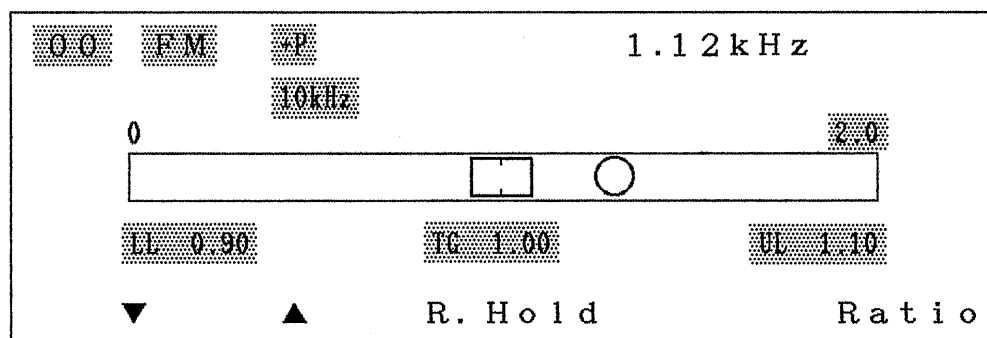

Fig. 4-3
- 5) The target value (TG) is set as shown in Fig. 4-3 in a location that is easily legible in the center of the bar graph.